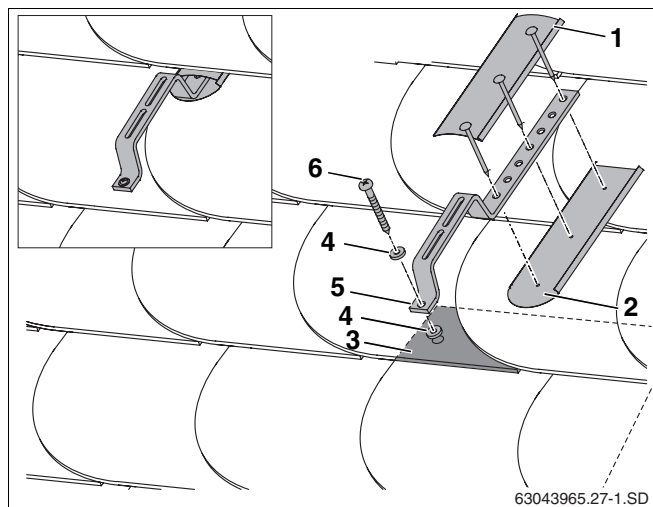

Fig. 26 Mounting on slate/shingle roof
Here is an example of the installation of the special roof hooks and the watertight seal with custom flashing (Fig. 26, **Item 1** and **2**) with a shingle/slate roof.
- ▶ Fit special roof hook (Fig. 26, **Item 5**) and gasket (Fig. 26, **Item 4**) to the slate/shingle roofs using screw (Fig. 26, **Item 6**).
- ▶ To ensure that the installation is watertight, flashing (Fig. 26, **Item 1, 2**) must be installed on the building above and below the special roof hooks.
The special roof hooks must be positioned on the front of a multiple roof (Fig. 26, **Item 3**).